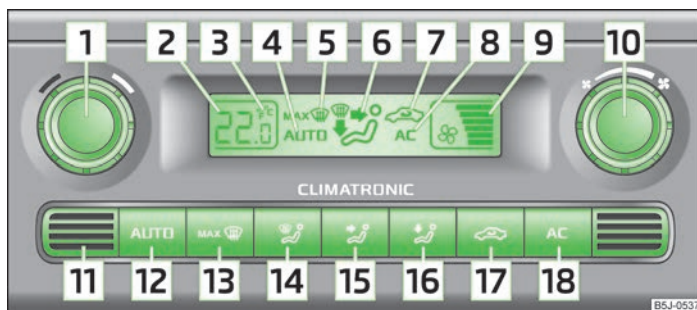

Fig. 80 Climatronic: Control elements
- › (AC) 18 » Fig. 80 on page 76 switched on.
- › Press the button (AUTO) 12 » Fig. 80 on page 76.
Press and hold the buttons (AUTO) and (AC) » Fig. 80 on page 76 at the same time. The information in the desired temperature measuring unit appears in the display.
The interior temperature sensor **11** » Fig. 80 is located in the bottom part of the device. Do not stick anything on or cover the sensor, otherwise it could have an unfavourable effect on the Climatronic.
- Press the button **(AUTO)** **12** » Fig. 80 on page 76; **AUTO** is shown in the display.
- The required interior temperature can be set with the control dial **1** » Fig. 80 on page 76 after switching on the ignition.
- Press the button **()** **17** » Fig. 80 on page 76; the symbol  appears in the display.
- Press the button **()** **17** » Fig. 80 on page 76 again and the symbol  disappears from the display.
- Turn the control dial **10** » Fig. 80 on page 76 to the left (reduce blower speed) or right (increase blower speed).
➤ Press the button  » Fig. 80 on page 76.
➤ Once again press the button  » Fig. 80 on page 76 or the button .